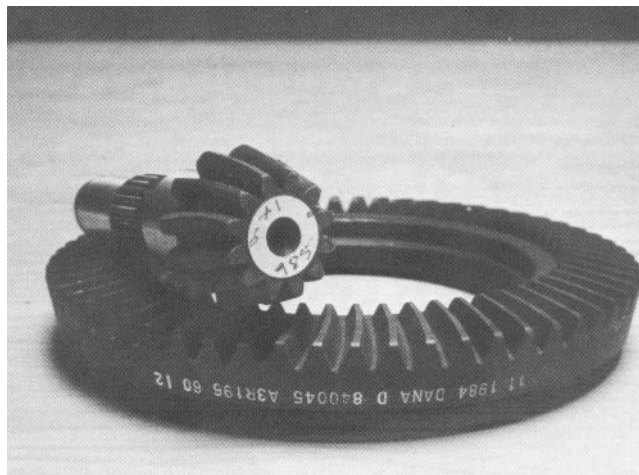

Figure 40
B. When installing NEW ring and pinion gears (supplied in matched sets only) make sure the numbers etched on both the pinion and ring gear match (Fig. 40).